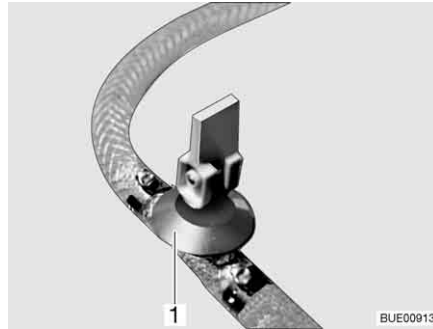
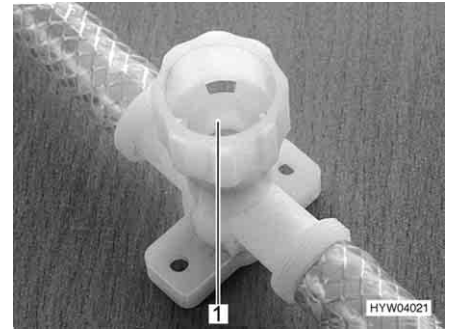

Fig. 136 Drain cock (with rocking lever)
Fig. 137 Drain cock (with twist cap)
- Open all drain cocks. To do this, position the drain cock's rocking lever (Fig. 136,1) vertically or turn the drain cock's cap (Fig. 137,1) in an anti-clockwise direction.